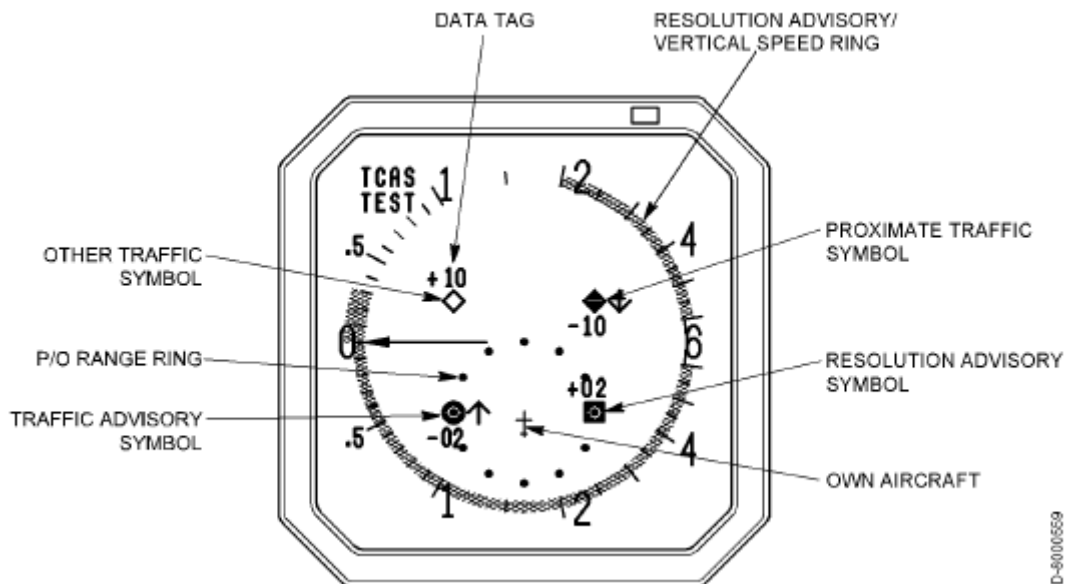

Figure 1-17: TCAS Display Test Pattern
- Make sure the test pattern is as shown in Figure 1-17. The test pattern includes: